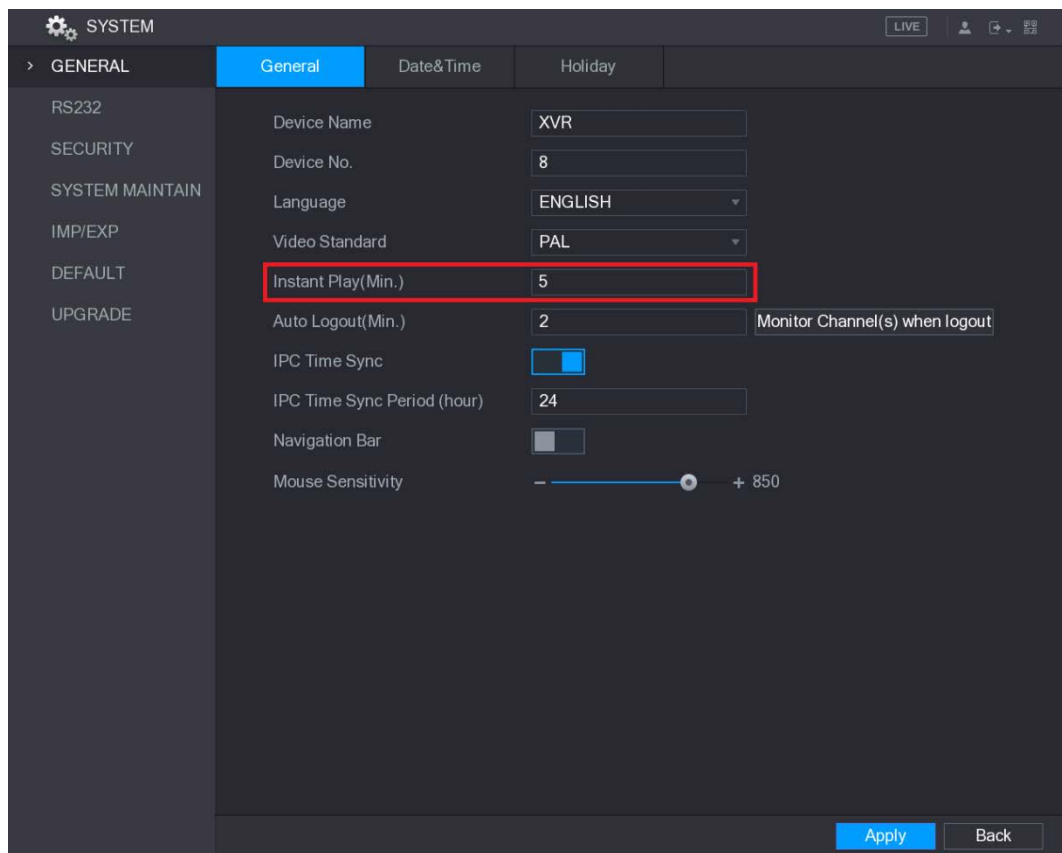

Figure 5-35
- To change the playback time, select **Main Menu > SYSTEM > GENERAL**, in the **Instant Play** box, enter the time you want to play back. See Figure 5-35.